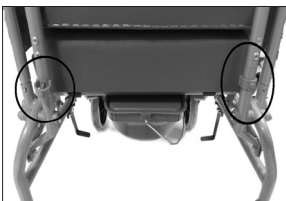

FIG. 3
- Attach the backrest using the tightening wheels (FIG. 3).